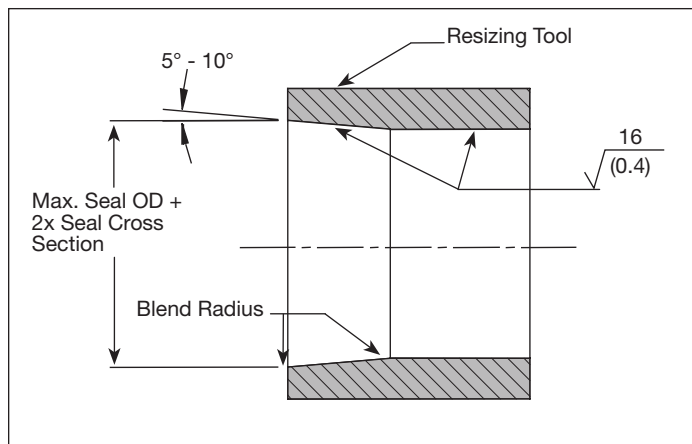

Figure 2-20. Resizing tool
7. For PTFE cap seals, slide the resizing tool over the seal to compress the seal to its original diameter (Figures 2-20, 2-21).